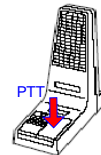

Figure 3-1
- When using the Hand-Held microphone, Hold it about 5cm from your mouth and press the Press-To-Talk (PTT) key, located on the side of the microphone (see Figure 3-1). Speak clearly into the microphone at your normal voice level, identifying yourself by your call sign, and the person you wish to contact. (For example: Base to Mobile 2.)